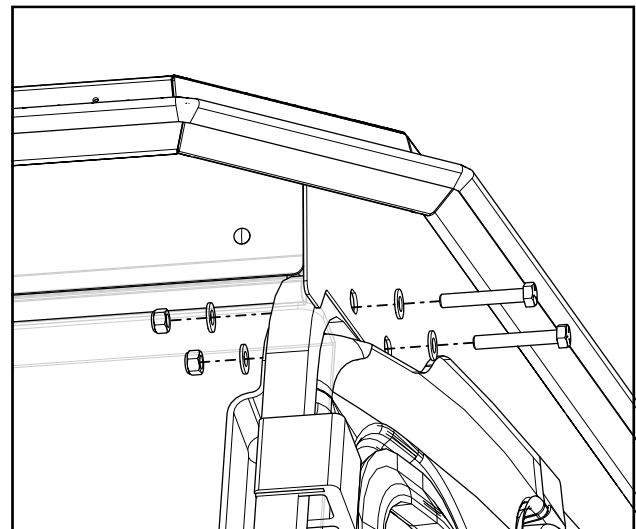

Fig. 2.2 (Install Front Bolts)
- 2.2 Install fasteners through the roof's side brackets, then vehicle frame tube, and finally cab upper front mounts. Leave bolts loose. Figure 2.2.